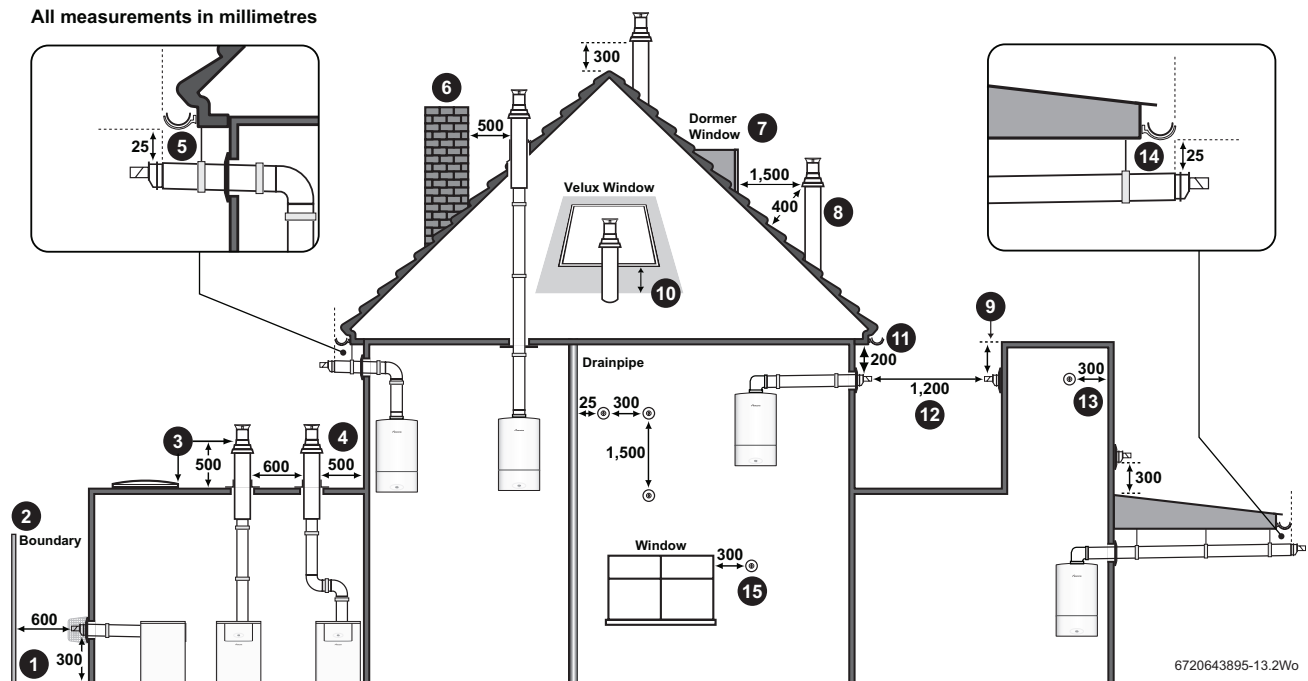

Fig. 19 Flue terminal positions
- ▶ Refer to figure 19 for all concentric flue terminal positions unless the flue position is specified on the figure above “Plume terminal positions”.